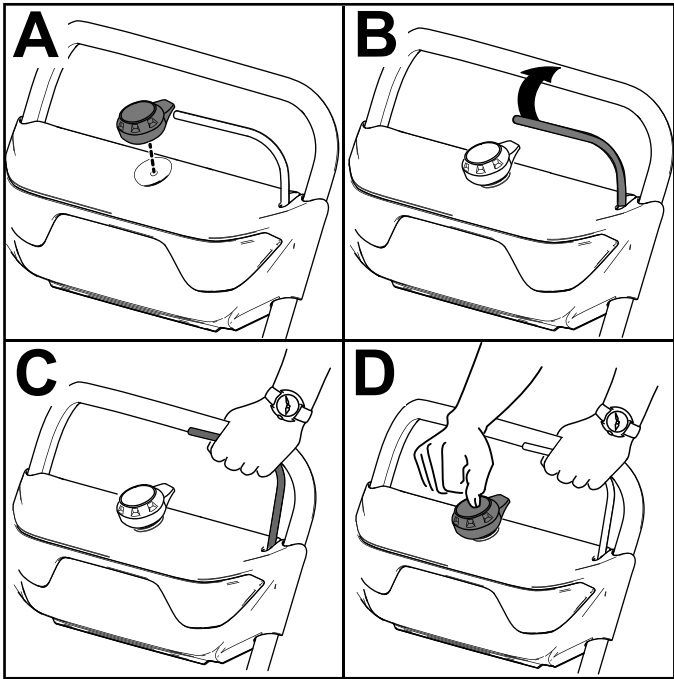

Figure 10
2. Insert the electric-start button into the electric starter (A of Figure 10).
3. Squeeze the bail and hold it to the handle (B and C of Figure 10).
4. Press the electric-start button until the motor starts (D of Figure 10).